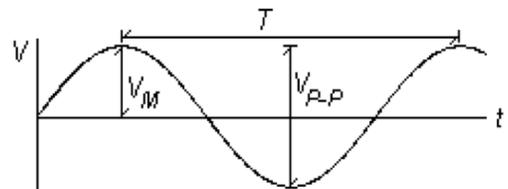

FIGURE 1
$f = 1/T$. Figure 1 shows such a voltage signal versus time.
- Measure the period of the signal. Recall that the period is the time required for one cycle as illustrated in Fig. 1. Using this value of T , calculate the frequency f of the signal. Is this value close to 100 Hz? It may not agree exactly since the frequency knob of the SSG may not be calibrated perfectly.